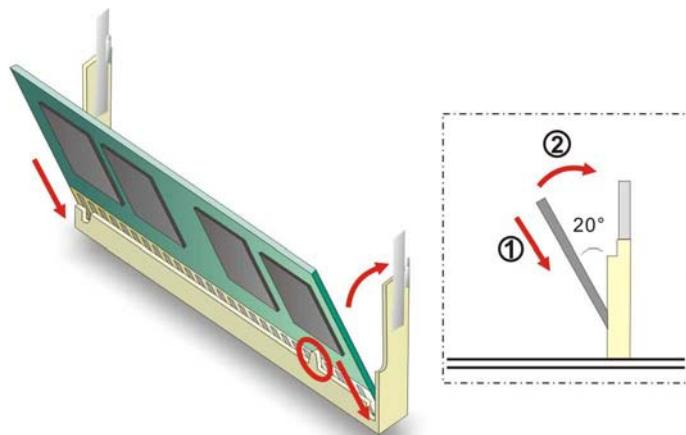

Figure 5-5: SO-DIMM Installation
To install a SO-DIMM into a SO-DIMM socket, please follow the steps below and refer to **Figure 5-5**.
Step 3: Insert the SO-DIMM. Push the SO-DIMM chip into the socket at an angle. (See **Figure 5-5**)
Step 4: Open the SO-DIMM socket arms. Gently pull the arms of the SO-DIMM socket out and push the rear of the SO-DIMM down. (See **Figure 5-5**)